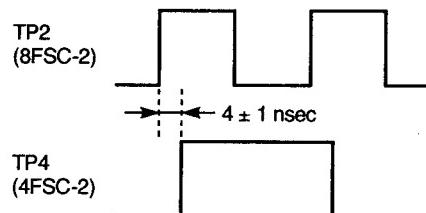

Fig. 5-1-5
- Adjust CT3 to obtain $4 \pm 1 \text{ nsec}$ as shown in Fig. 5-1-5.